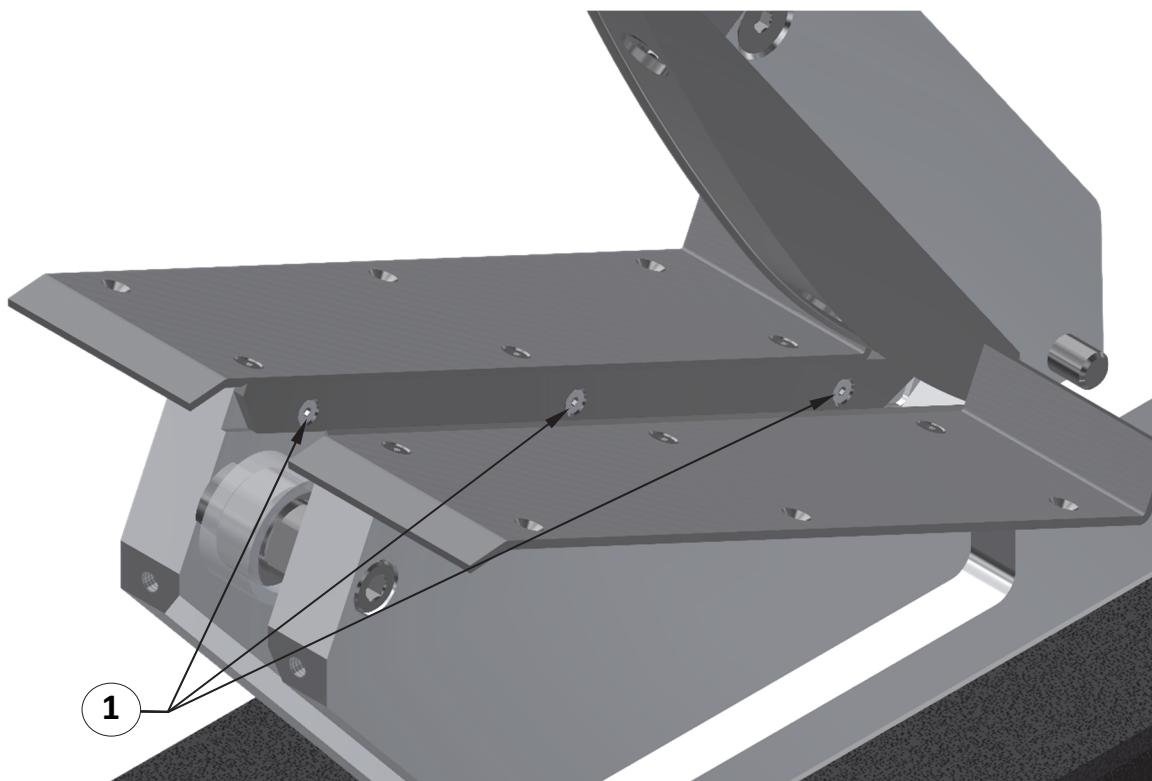

Figure 4.4
- a. With the cover removed, use a 2mm allen wrench to remove the 3 flat head screws that hold the blade to the main body (*See Item 1, Figure 4.4*). Note, there are a total of 6 screws that fasten the left and right blades to the main body. Warning, these blades are very sharp, wear gloves when removing fasteners and ensure the lever assembly is in the upright position prior to changing the blades (*See figure 4.4*).